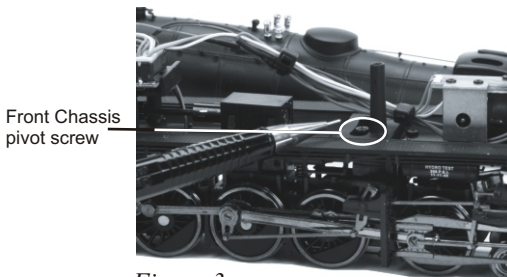

Figure 3
3. Remove the front chassis pivot screw as shown in Fig 3.